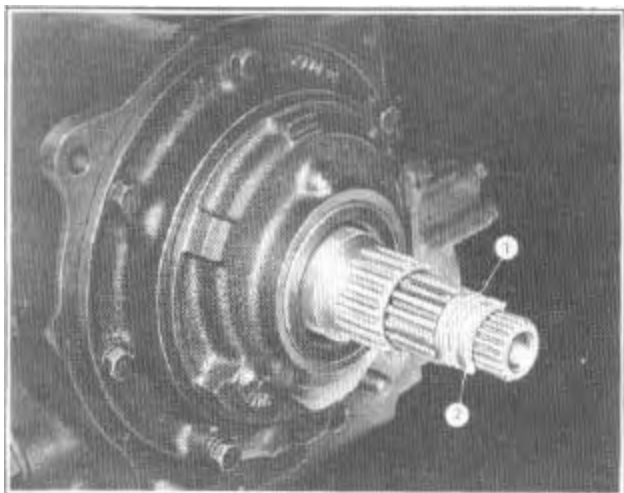

FIGURE 85
3. Place the Ring Gear Retaining Clip J-4668-3 on the mainshaft with the lip of the retainer clip installed in the recess between the mainshaft and the face of the front ring gear hub and retain the clip (2) in place with a rubber band (1), Figure 85.
12. Remove the J-4668-3 Ring Gear Retaining Clip from the mainshaft. While holding the ring gear shaft (1), Figure 85, turn the mainshaft (2) in both directions to make sure that it operates freely without bind.